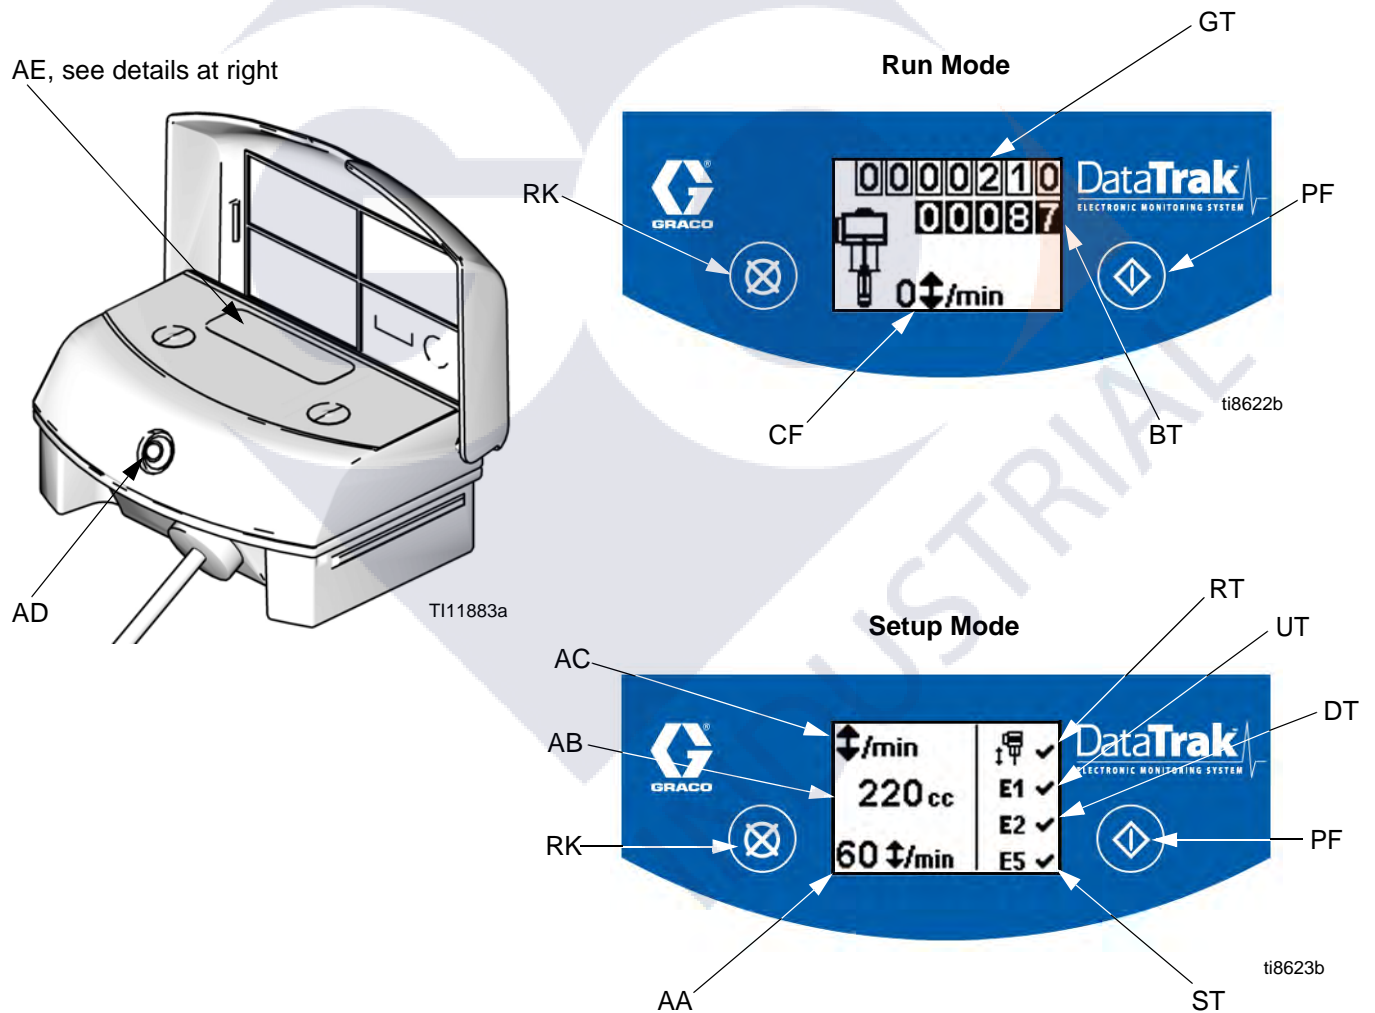

FIG. 4. DataTrak Controls and Indicators
Key for FIG. 4
1. See FIG. 4. Press and hold  for 5 seconds until Setup menu appears.
NOTE: When runaway, E1, E2, and E5 error options are enabled, a ✓ will appear on the setup screen. See FIG. 4.
1. See FIG. 4. If pump runaway occurs, the runaway solenoid will actuate, stopping the pump. The LED (AD) will flash and the display (AE) will indicate a runaway condition (see Table 1). The display will cycle through six instruction screens.
2. Runaway Screens 1 and 2: To reset the runaway solenoid, close the master air valve (U). Wait for air to completely bleed off the air motor.
5. Open bleed-type master air valve (U) to restart pump.
NOTE: To disable runaway monitoring, go to setup mode and set runaway value to 0 (zero) or toggle (RT) off  (see FIG. 4).
1. See FIG. 4. To enter Prime/Flush mode, press any key to wake up the display, then press . The Prime/Flush symbol will appear in the display and
See FIG. 4. The last digit of the batch totalizer (BT) represents tenths of gallons or liters. To reset the totalizer, press any key to wake up the display, then press and hold  for 3 seconds.
See FIG. 4. The display (AE) will turn off after 1 minute of inactivity in Run mode or 3 minutes in Setup mode. Press any key to wake up the display.
DataTrak can diagnose several problems with the pump. When the monitor detects a problem, the LED (AD, FIG. 4) will flash and a diagnostic code will appear on the display. See Table 1.